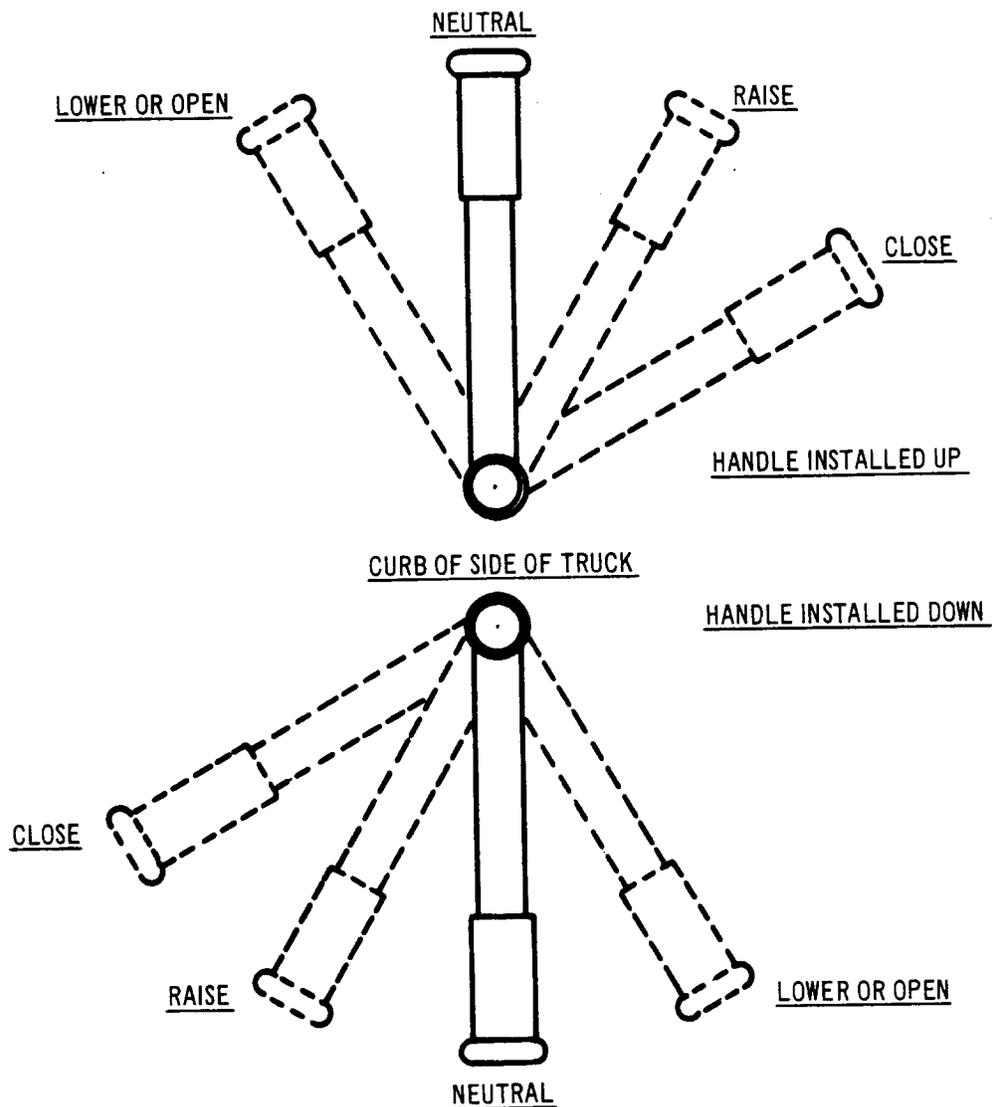

Fig. 27
17.01 Before opening or lowering the lift gate, move operating handle to the "raise" position, to disengage the safety hooks. (See Fig. 27.)